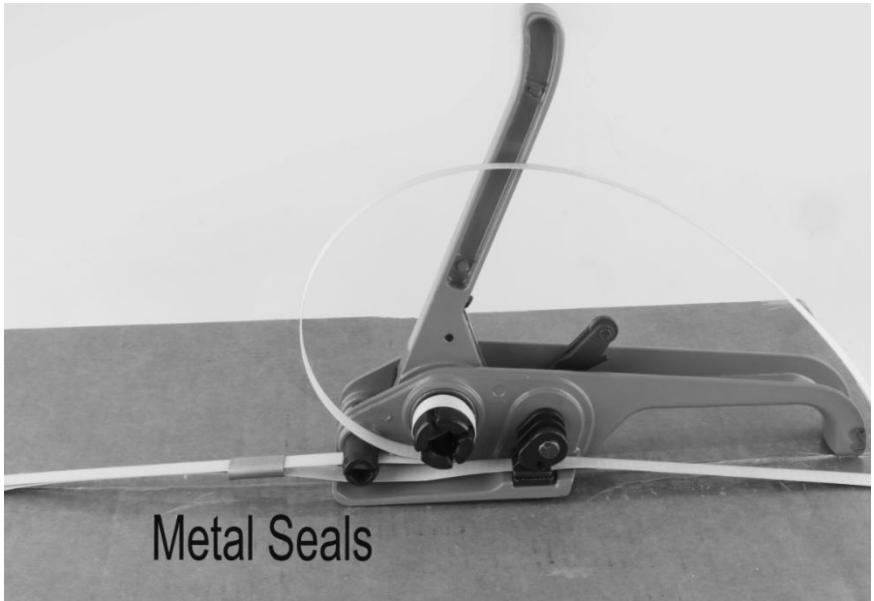

FIG.3
3. Operate this tension bar repeatedly from FIG. 2 to FIG.3, the strapping will be tightened.